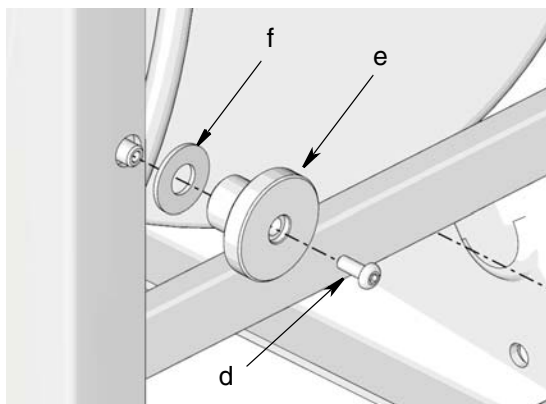

FIG. 5
3. Remove brake knob screw (d) and brake knob (e) and washer (f). Set these parts aside to use for reassembly (FIG. 5).